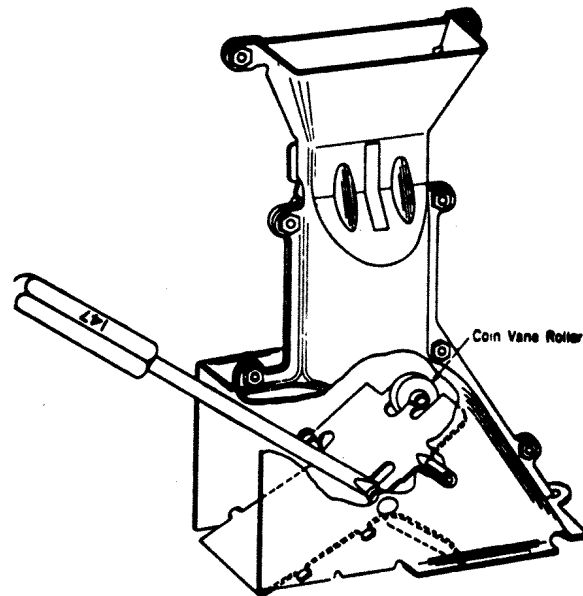

Figure 1A
- (4) If vane is in good condition, it may be re-used. If necessary, free coin vane roller with KS-7860 petroleum spirits. Clean vane thoroughly using KS-2423 cloth moistened with petroleum spirits. Vane shall be replaced if not in good condition.
- (5) When remounting coin vane, assure that lock washer is under head of the bearing screw. Check vane and hopper clearance as in Paragraph 4.07 of section.
- (6) If vane scrapes on front of hopper, place No. 147 tool or equivalent, such as a No. 35 tool or KS-6854 screwdriver, as shown in Figure 1A and adjust front bearing outward by turning tool slightly. If vane scrapes against back of hopper, adjust rear bearing outward as described. In adjusting vane, be careful not to introduce any binding at bearings.
- (7) If vane binds at front bearing, place No. 147 tool or equivalent between coin vane and back wall of coin hopper and turn tool slightly. Tool should be placed about opposite coin vane pin in order not to produce burrs on coin vane or on shoulder of stud used for coin vane bearing. If vane binds at back